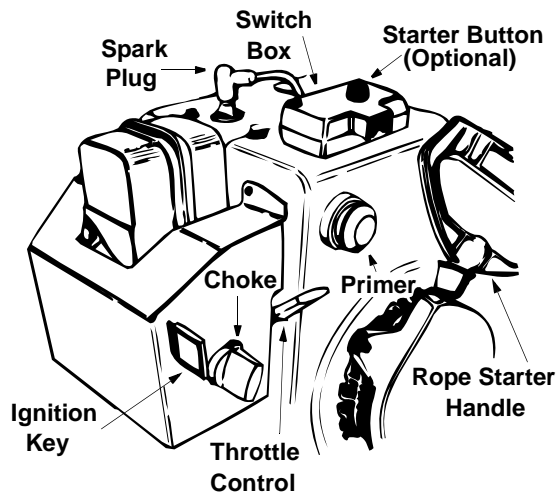

Figure 15
The throttle control is located on the engine. It regulates the speed of the engine. See Figure 15.
The ignition key must be inserted in the switch before the unit will start. Remove the ignition key when snow thrower is not in use. See Figure 15.
- Move throttle control up to FAST position. Insert ignition key into slot. See Figure 15. Be certain it snaps into place. **Do not** turn key.
- **Recoil Start Only:** Push primer button two or three times. If engine is warm, push primer button once only. See Figure 15.
- **Recoil Start:** Grasp starter handle (see Figure 15) and pull rope out slowly, until it pulls slightly harder. Let rope rewind slowly. Pull starter handle rapidly. Do not allow handle to snap back. Allow it to rewind slowly while keeping a firm hold on the starter handle.